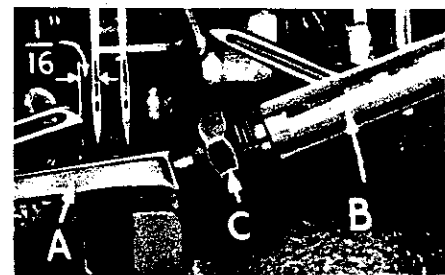

Fig. 6
At this point, insert lower looper (A, Fig. 6) into bar (B). With the lower looper at the left end of its stroke, set point $1/16$ inch from center of left needle (Fig. 6), using looper gauge No. 21225- $1/16$.